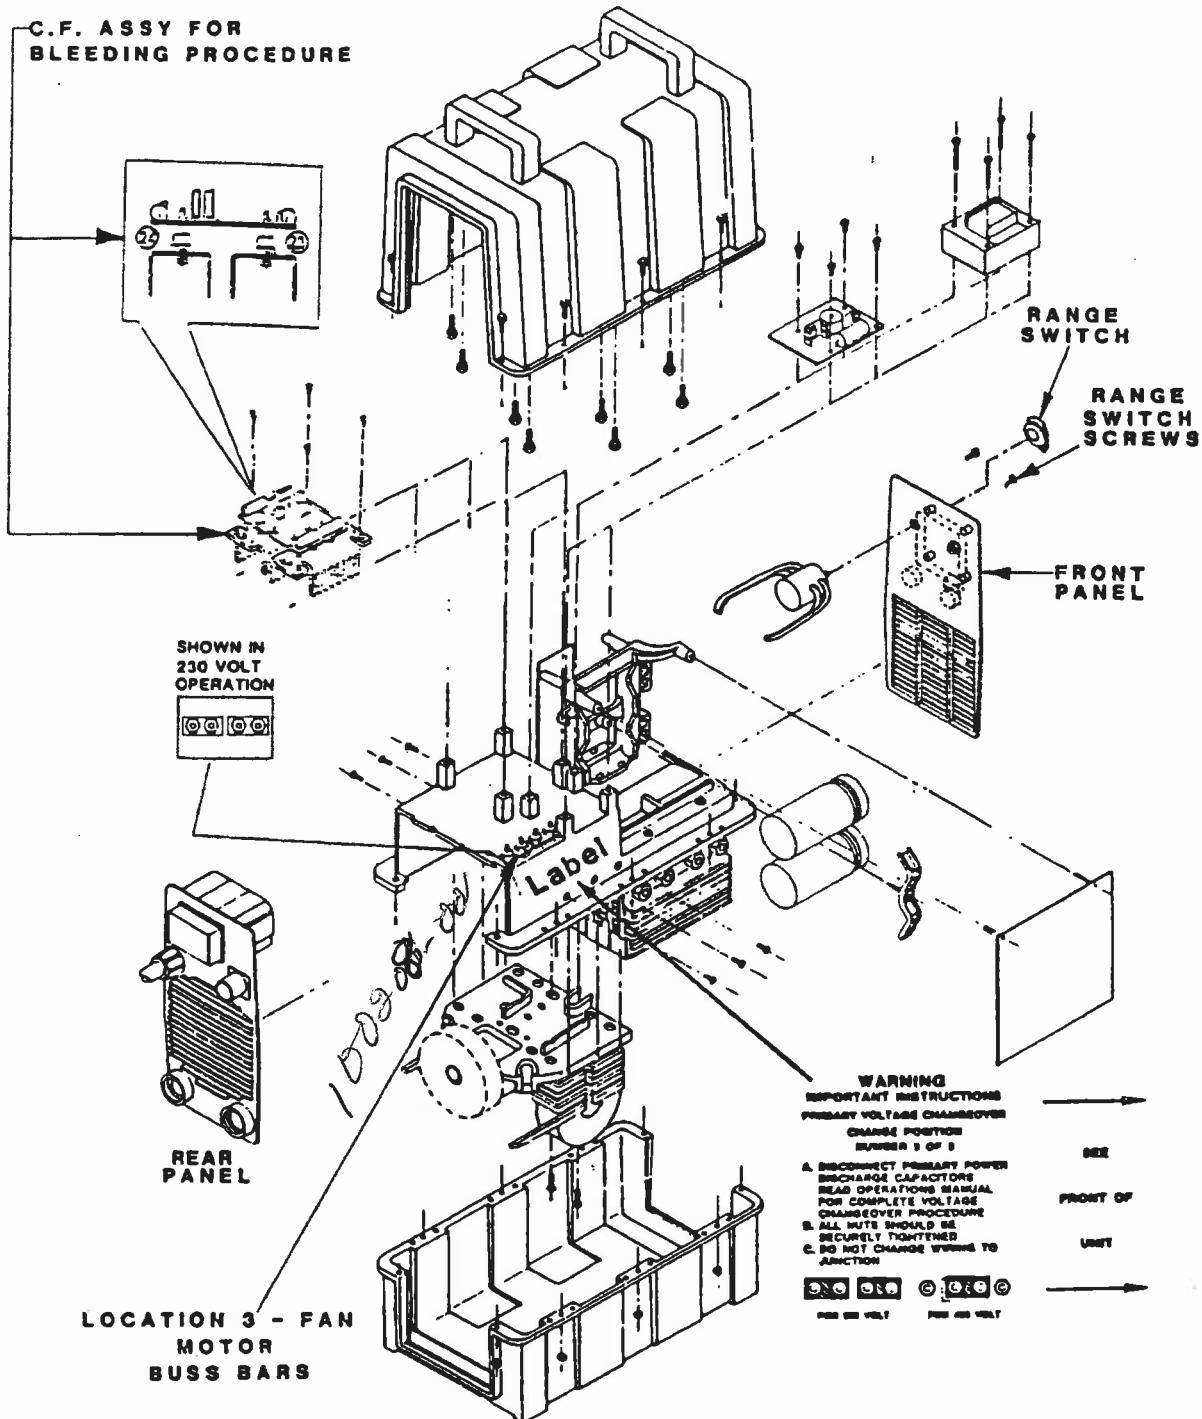

Figure 4, Location 3 Voltage Changeover
- 1) Working capacitor board (right front side of unit, see Figure 4).
- 3) Copper buss bars for main transformer (front of unit, see Figure 4).
- A) Locate the instruction label for the copper buss bars shown in Location 2 of Figure 4.